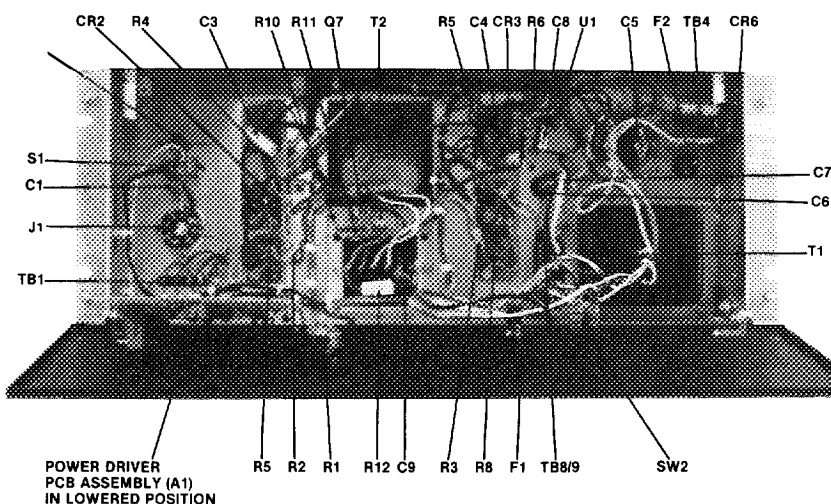

Figure 4. Component Locations Inside Main Chassis
2. Locate terminal block TB8/TB9 within the chassis; see Figure 4.